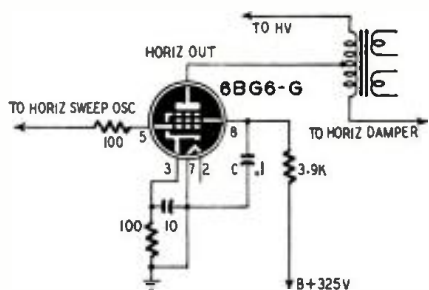

Fig. 3—Remove 0.1-µf screen-grid capacitor.
A. Checking with the company, I find they've discontinued the 0.1- μ f screen-grid bypass capacitor C on the 6BG6-G horizontal output tube, because of complaints such as yours. Simply remove that capacitor and leave it off to clear up your trouble. See Fig. 3 for its exact position in the circuit of the receiver.